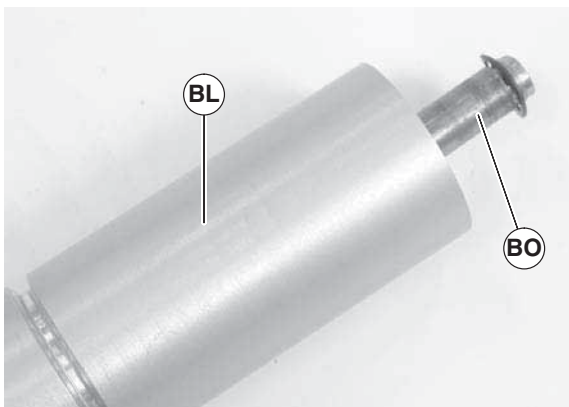

Figure 57
- Use a temporary support (Figure 57, item BP) to support Gearmotor.